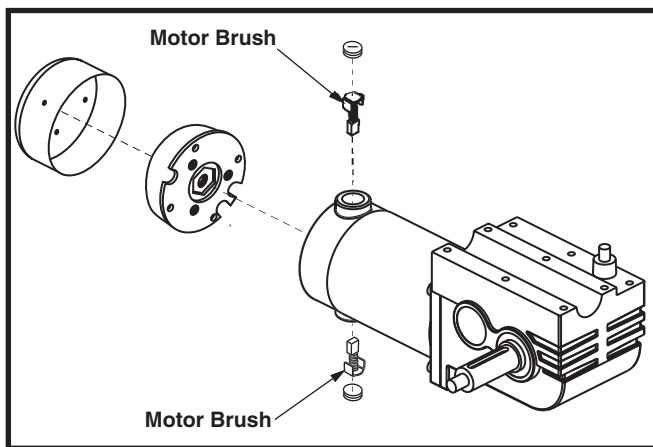

Figure 33. Motor Brush Location (typical)
7. Remove the brushes from the right motor (9) and inspect them. **See figure 33.**